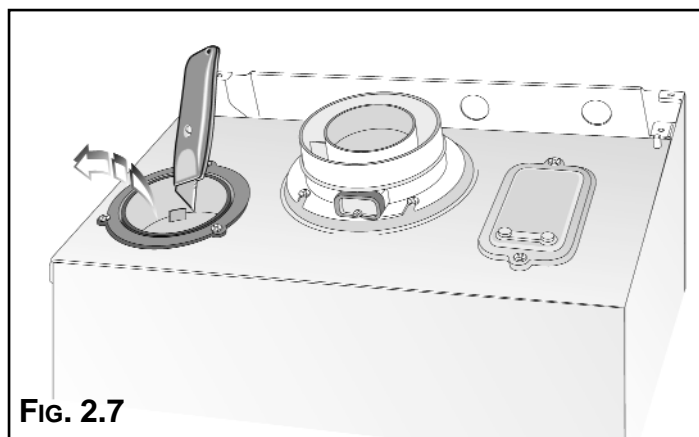

FIG. 2.7
1. Remove the bottom of the air intake by cutting it with a suitable knife (see **FIG. 2.7**);